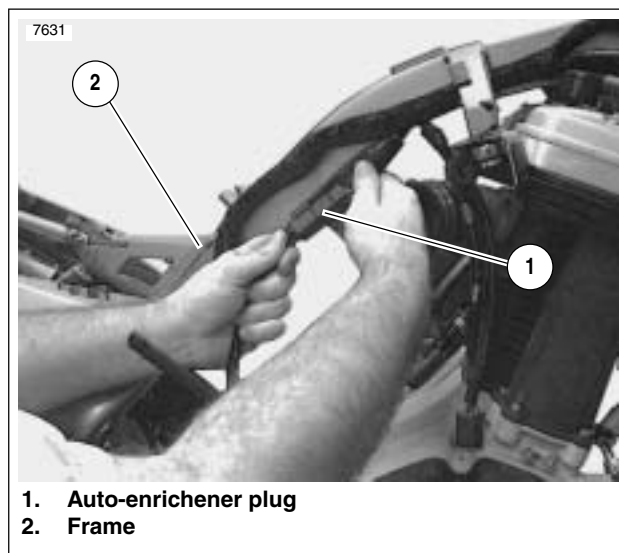

Figure 3-34. Auto-Enrichener Plug
23. See Figure 3-34. Connect auto-enrichener plug.